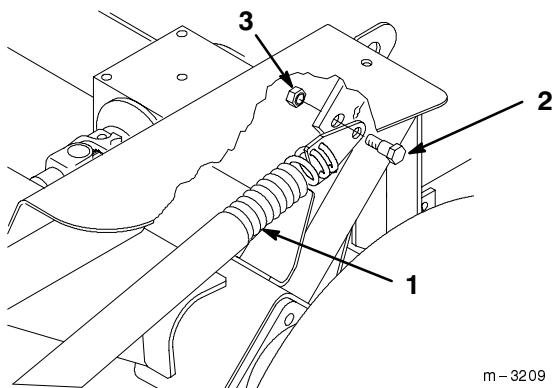

Figure 25
7. Check to see if tension has been removed from the spring assemblies. If tension remains add blocks to raise carrier frame higher. If there is too much tension use a smaller block (Fig. 25).
8. Remove 3/8" x 7/8" (23 mm) shoulder bolts and 3/8" locknuts securing spring end plate assemblies to carrier frame (Fig. 25).